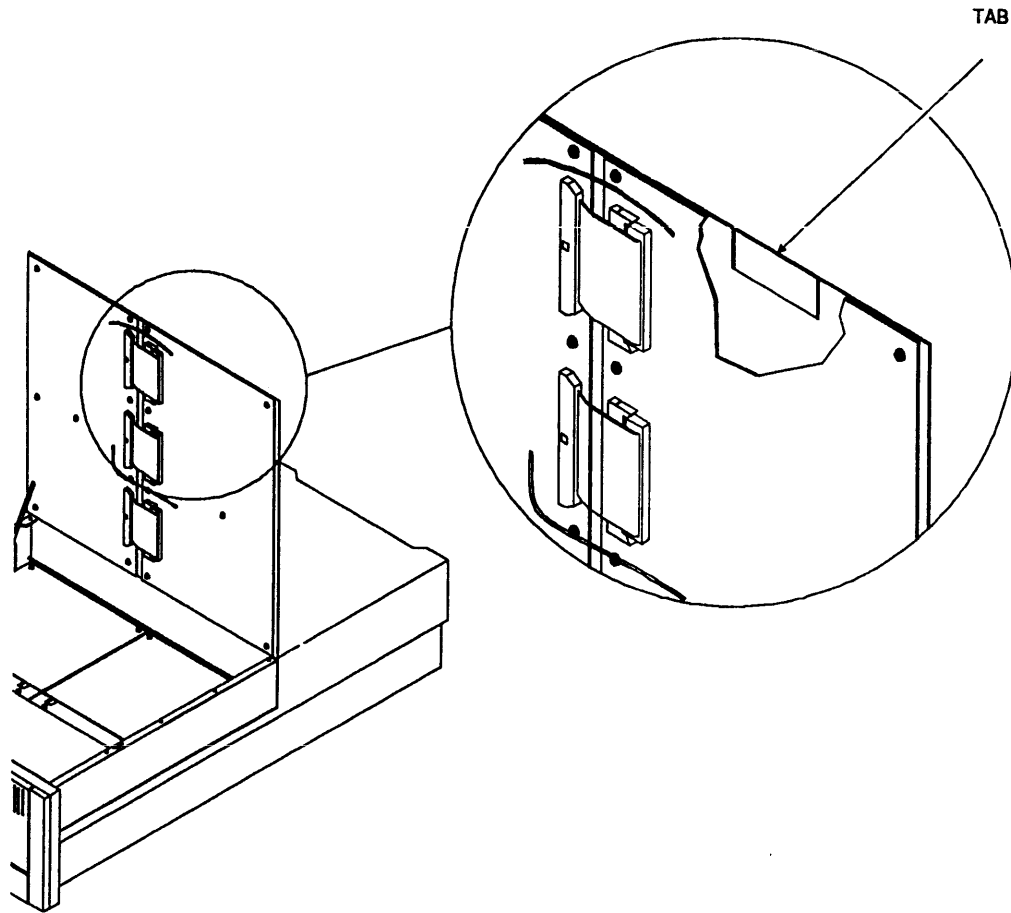

Figure 5
2. With a pair of pliers, break off the scored tab (Figure 5) on the front edge of the front cover.